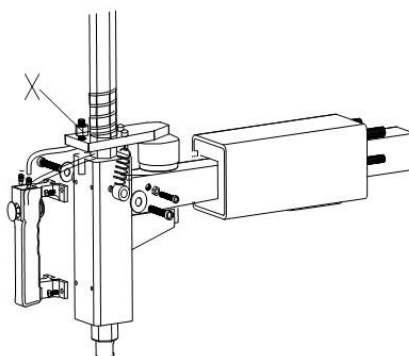
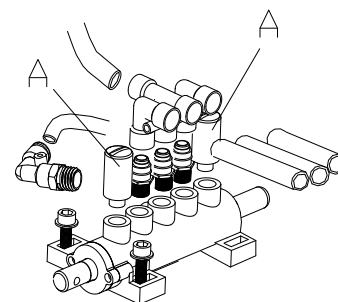

Fig 21
Fig 22
**Note:** If Vertical Arm not be locked or not meet the requirement that 2-3mm from the bottom of Mounting head/demounting head to rim, please adjust Hexagonal Locking Plate, refer to Fig 21 and adjust the (X).
2. Loosen the valve mufflers (A) which belong to Jaws open and close Pedal and Bead Breaker Pedal;
3. Clean the mufflers with compressed air, please replace it referring to the spare parts list if it is damaged. (Fig 22)